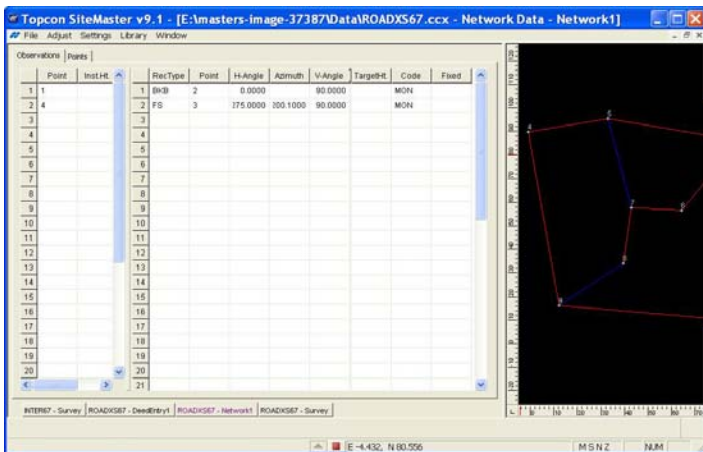

Figure 12-32. Data Editor
- **New** – creates a new traverse (see Figure 12-32 on page 12-29).
Click **New** on the *Network Data Manager* dialog box to display the **Data Editor** (Figure 12-32 on page 12-29).
On the *Data Editor* dialog box (see Figure 12-32 on page 12-29), use options from the **File** menu, the **Adjust** menu, the **Settings** menu, and the **Library** menu to manage and process the least squares adjustment.